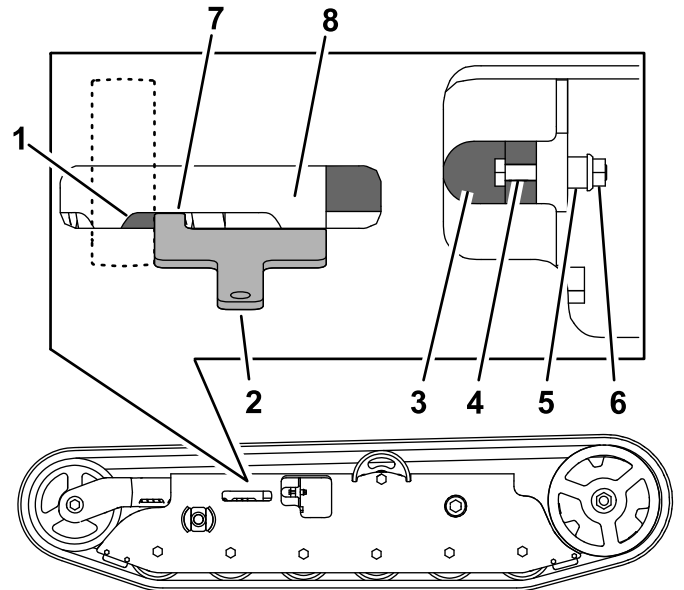
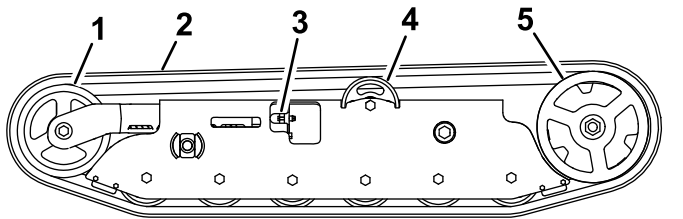

Figure 36
Figure 37
If you place the tab of the tensioning tool along the rear edge of the tension nut, the other end of the tensioning tool should align with the edge of the tension arm as shown in Figure 36. If the distance is not correct, adjust the track tension using the following procedure:
5. Remove the bolt (1/4 x 1-5/8 inch), spacer, and nut (Figure 36).
6. Turn the tensioning bolt to adjust the distance between the tension nut and the end tangent of the tension tube until the distance is correct, as shown in Figure 36.
7. Align the closest notch in the tensioning bolt to the bolt hole and secure the tensioning bolt with the bolt (1/4 x 1-5/8 inch), spacer, and nut (Figure 36).
9. Push the track under the lugs and between the road wheels (Figure 37).
5. Release the drive tension by turning the tensioning screw clockwise (Figure 36 and Figure 37).
7. When the track is off the front wheel, remove it from the drive sprocket and road wheels (Figure 37).
8. Beginning at the drive sprocket, coil the new track around the sprocket, ensuring that the lugs on the track fit between the spacers on the sprocket (Figure 37).
5. Remove the skid plate (Figure 36).